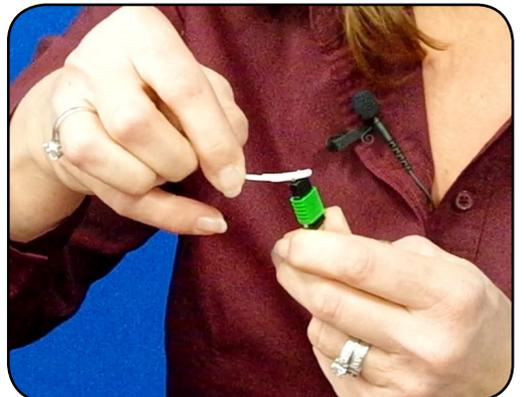

Figure 3
- Place swab, wet side down at one end of connector end-face and draw across in a diagonal sweep (ie: from fiber 1 up and across to fiber 12). Turn swab over to dry and draw back from fiber 12 to fiber 1. **Figure 3**